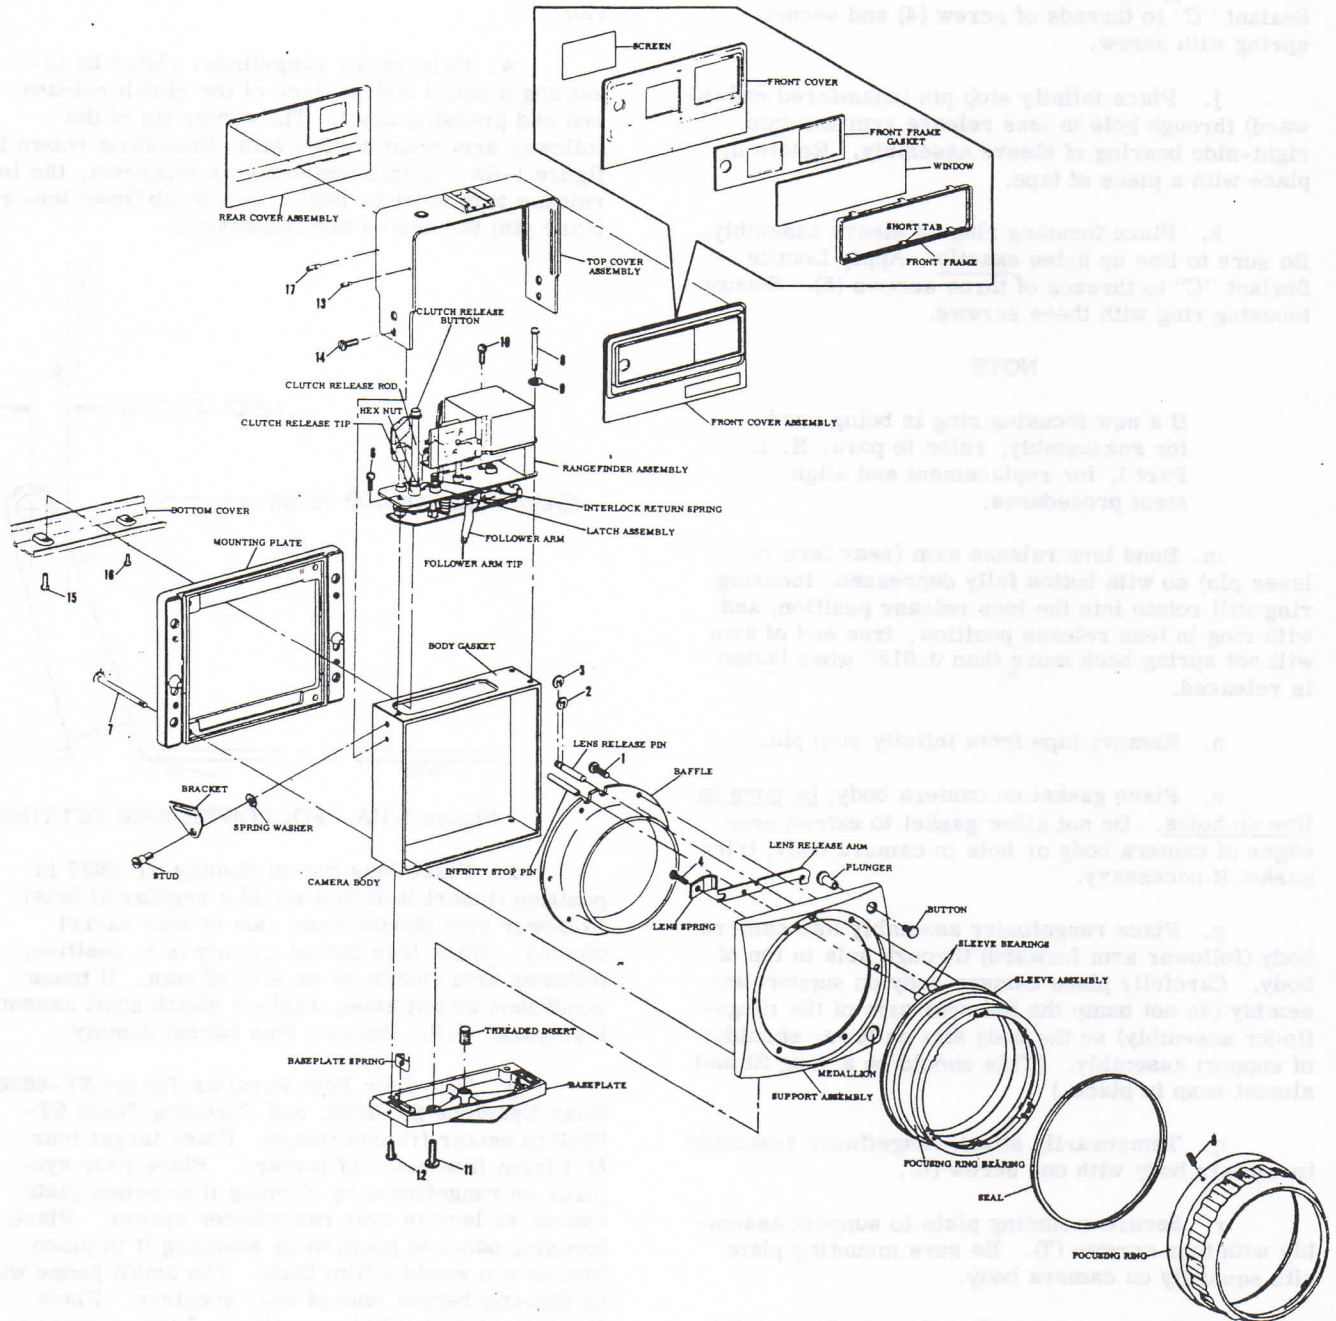

Figure 1-11. RANGEFINDER CAMERA BODY COMPLETE
7. Camera Body, Rangefinder Model (Figure 1-11)
8. Body and Rangefinder Complete (Figure 1-11)
c. Apply Glyptal to threads of two screws (11). Assemble baseplate to support assembly with